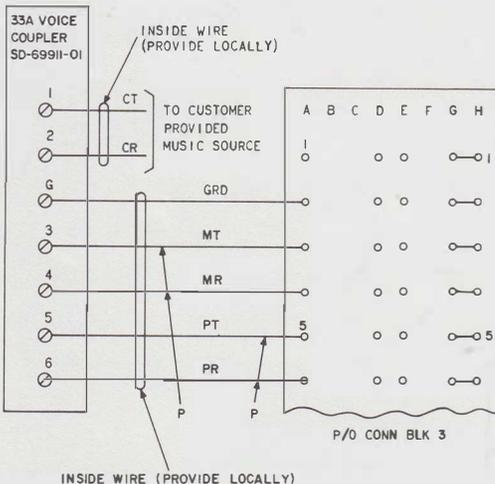

Fig. 38—Connections for 33A Voice Coupler
- (1) Remove cover from voice coupler.
- (2) Mount voice coupler externally to KSU (wherever customer desires).
- (3) Connect voice coupler to 570A KSU as shown in Fig. 38.
- (4) Have customer connect voice coupler to his music source as shown in Fig. 38.